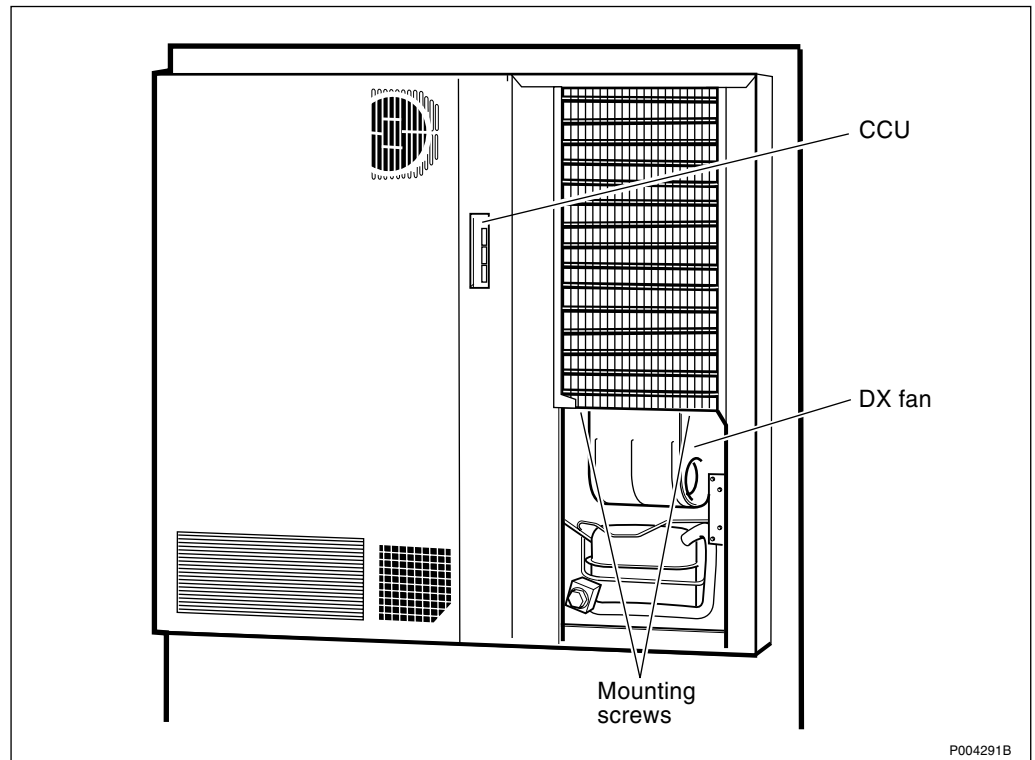

Figure 163 DX fan location (all versions)
7. Mount the fan with the two mounting screws. See Figure 163 on page 295.